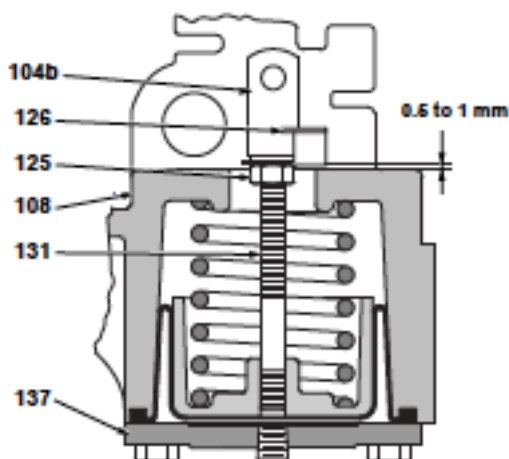

Figure 14 - Piston rod clevis (104b) adjustment
4.1.1 Adjusting the piston rod clevis on the VariPak 28001 single-lever valve (Figures 14 and 26)
VariPak 28002 adjustable- C_v valve (Figures 14 and 27)